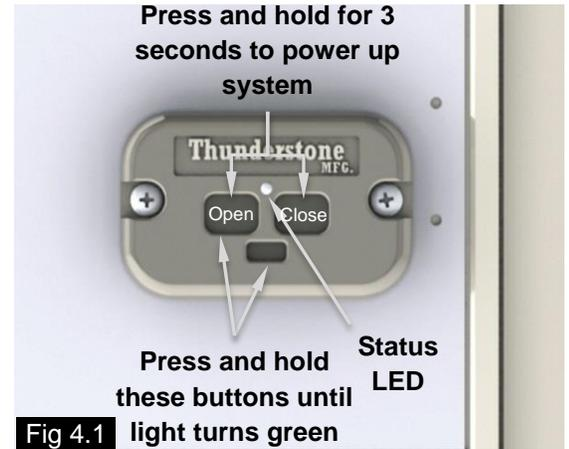

Fig 4.1
3. Turn the trailer keypad on by pressing and holding the two large buttons "Open" and "Close" for approximately 3 seconds or until the status LED and the two large buttons illuminate. See figure 4.1
4. Press and hold the program button (small button) and the "Open" button simultaneously until the status LED turns solid green then release both buttons. The LED will then flash orange rapidly which indicates it is ready to receive remote programming. See figure 4.1